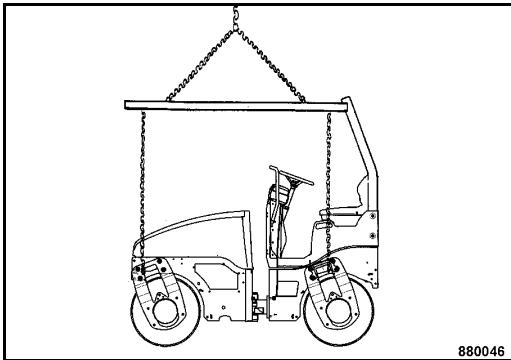

Fig. 112
- Use the four lifting eyes (Fig. 112) on the support legs to lift the machine.